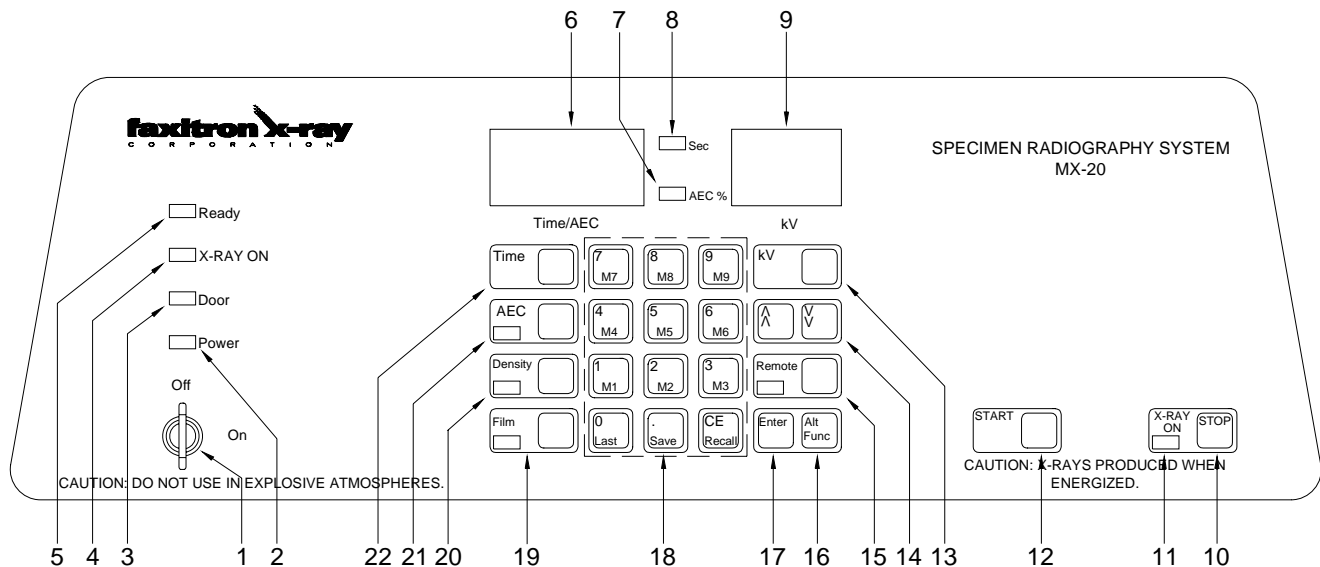

Figure 3-1. Control Panel
5. Locate the key for the On/Off Key Switch and place it in the Key Switch (see Figure 3-1 in the Operating Section). Make certain that the Key Switch is in its off position.
12. Start an exposure at 20 kV and 300 seconds. Open the Exposure Chamber Door slowly and check that the exposure is terminated and the Door Indicator **3**, X-RAY ON Indicator **4**, Ready Indicator **5**, and X-RAY ON Indicator **11** goes off. See Figure 3-1 in the operating section of the manual.
#### 3.1 CONTROL PANEL, (see Figure 3-1).